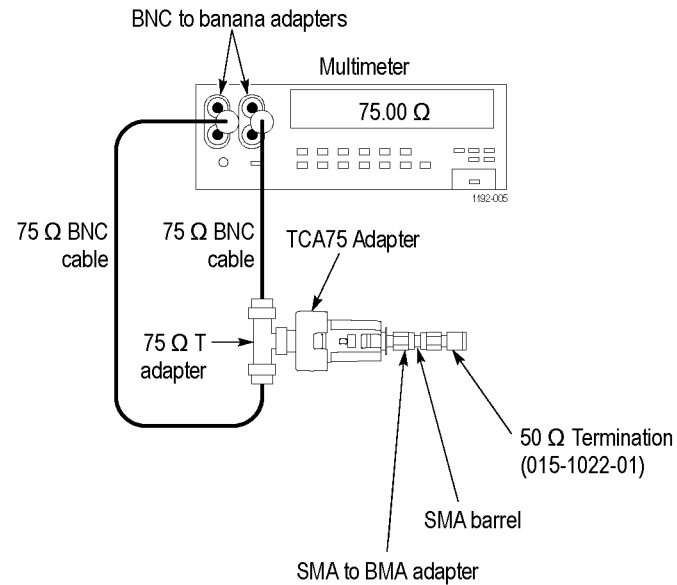

Figure 7: Test setup for input impedance
1. Connect the TCA75 adapter as shown. (See Figure 7.)